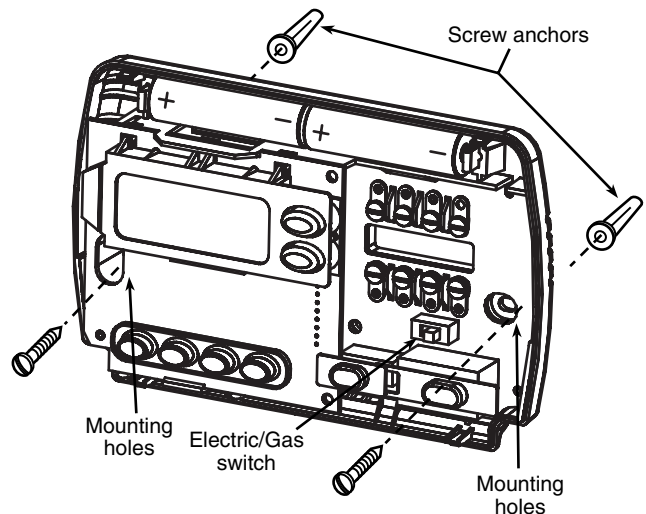

Figure 1. Thermostat Base
This thermostat is configured from the factory to operate a heat/cool, fossil fuel (gas, oil, etc.), forced air system. It is configured correctly for any system that DOES NOT require the thermostat to energize the fan on a call for heat. If your system is an electric heat or heat-pump system that REQUIRES the thermostat to turn on the fan on a call for heat, locate the **GAS/ELECTRIC switch** on the back of the thermostat (see fig. 1) and switch it to the **ELECTRIC** position. This will allow the thermostat to energize the fan immediately on a call for heat. If you are unsure if the heating/cooling system requires the thermostat to control the fan, contact a qualified heating and air conditioning service person.
5. Fasten base loosely to wall, as shown in fig. 1, using two mounting screws. Place a level against bottom of base, adjust until level, and then tighten screws. (Leveling is for appearance only and will not affect thermostat operation.) If you are using existing mounting holes, or if holes drilled are too large and do not allow you to tighten base snugly, use plastic screw anchors to secure subbase.
If **BATT** is displayed, the batteries are low and should be replaced with fresh "AA" Energizer® alkaline batteries. To replace batteries, install the batteries along the top of the base (see Fig. 1). The batteries must be installed with the positive (+) end to the left.